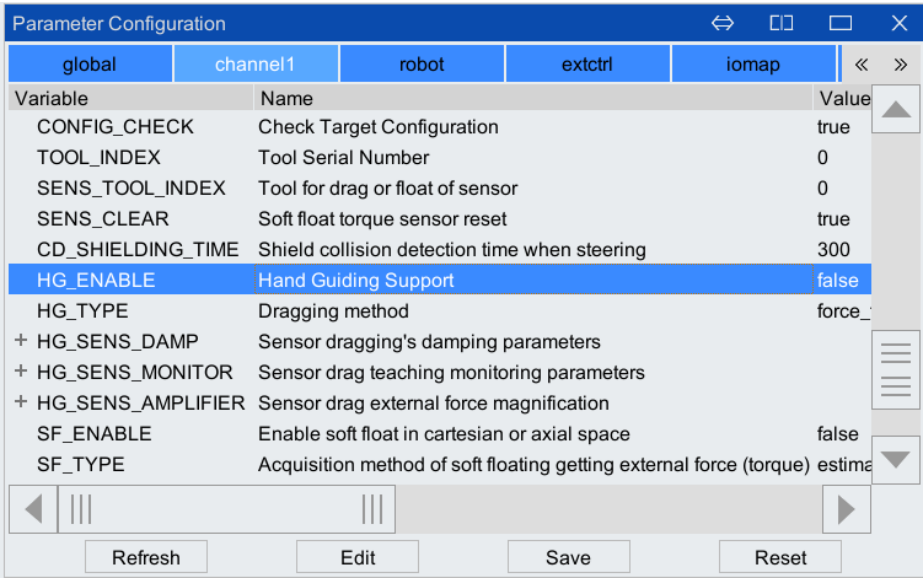

Figure 4-3 Drag Teaching Enable Parameter Setting Interface
Step3. Enter the parameter configuration interface and select the [Channel 1] tab, as shown in Figure 4-3, select the row where [HG-ENABLE (whether drag teaching is supported)] is located, and click <edit>.